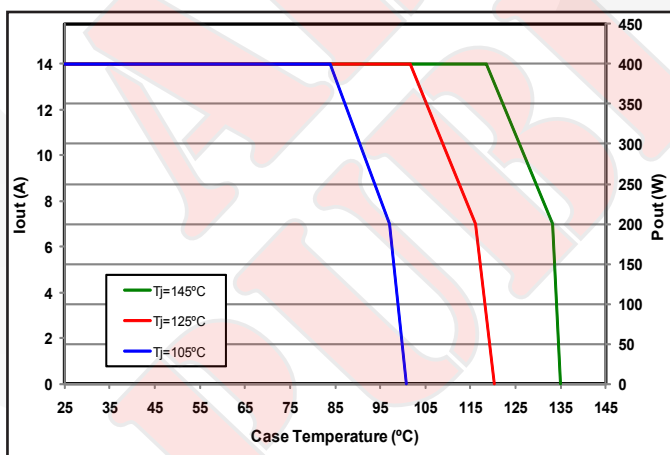

Figure 5: Output current and power derating curves vs. case temperature at nominal input voltage and at $T_j=105^{\circ}C$, $125^{\circ}C$, and $145^{\circ}C$.
2. Derate output power for continuous operation per Figure 5.
THERMAL CONSIDERATIONS: Figure 5 shows the suggested Power Derating Curves for this converter as a function of the case temperature and the maximum desired power MOSFET junction temperature. All other components within the converter are cooler than its hottest component, which at full power is no more than 20°C higher than the case temperature directly below this component. The Mil-HDBK-1547A component derating guideline calls for a maximum component temperature of 105°C. Figure 5 therefore has one power derating curve that ensures this limit is maintained. It has been SynQor's extensive experience that reliable long-term converter operation can be achieved with a maximum component temperature of 125°C. In extreme cases, a maximum temperature of 145°C is permissible, but not recommended for long-term operation where high reliability is required. Derating curves for these higher temperature limits are also included in Figure 5. The maximum case temperature at which the converter should be operated is 135°C.
The Mil-HDBK-1547A component derating guideline calls for a maximum component temperature of 105°C. Figure 5 therefore has one power derating curve that ensures this limit is maintained. It has been SynQor's extensive experience that reliable long-term converter operation can be achieved with a maximum component temperature of 125°C. In extreme cases, a maximum temperature of 145°C is permissible, but not recommended for long-term operation where high reliability is required. Derating curves for these higher temperature limits are also included in Figure 5. The maximum case temperature at which the converter should be operated is 135°C.